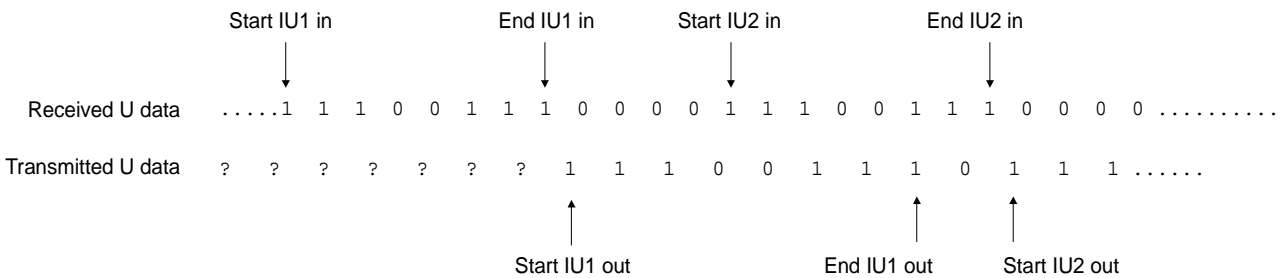

Figure 39. Example U Bit Sequence, with $F_{si}/F_{so} = 4/3$
In mode (3), it is assumed that the F_{so}/F_{si} ratio is close to 1, and that sufficient filler exists between IUs within a message for filler size to be contracted ($F_{si} > F_{so}$) or expanded ($F_{si} < F_{so}$) in transceiving the messages. An example of this for $F_{si} > F_{so}$ is shown in Figure 39. Due to the 4:3 F_{si}/F_{so} ratio, the AES3 transmitter outputs 9 bits for every 12 received by the AES3 receiver. The IU bits are all transmitted, preserving the integrity of the message. However, the length of output inter-IU filler segments is only 1 bit, as compared to 4 bits for the input segments.